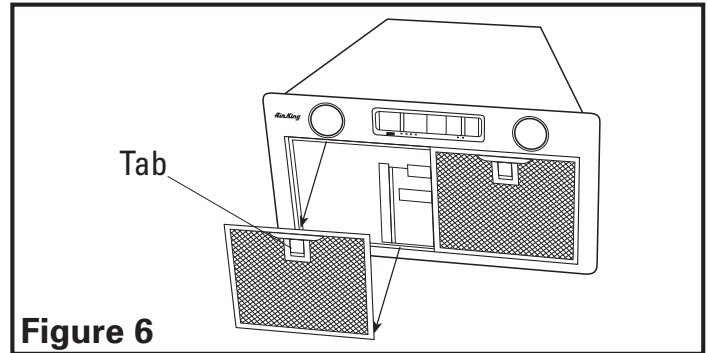

Figure 6
2. To remove the filters, pull down on the handle tab until the filter releases from the unit. To reinstall, slide tab at rear of filter into slot in the unit. While holding in handle of filter, lift filter into place and release handle. The filter should snap securely into place (Figure 6).